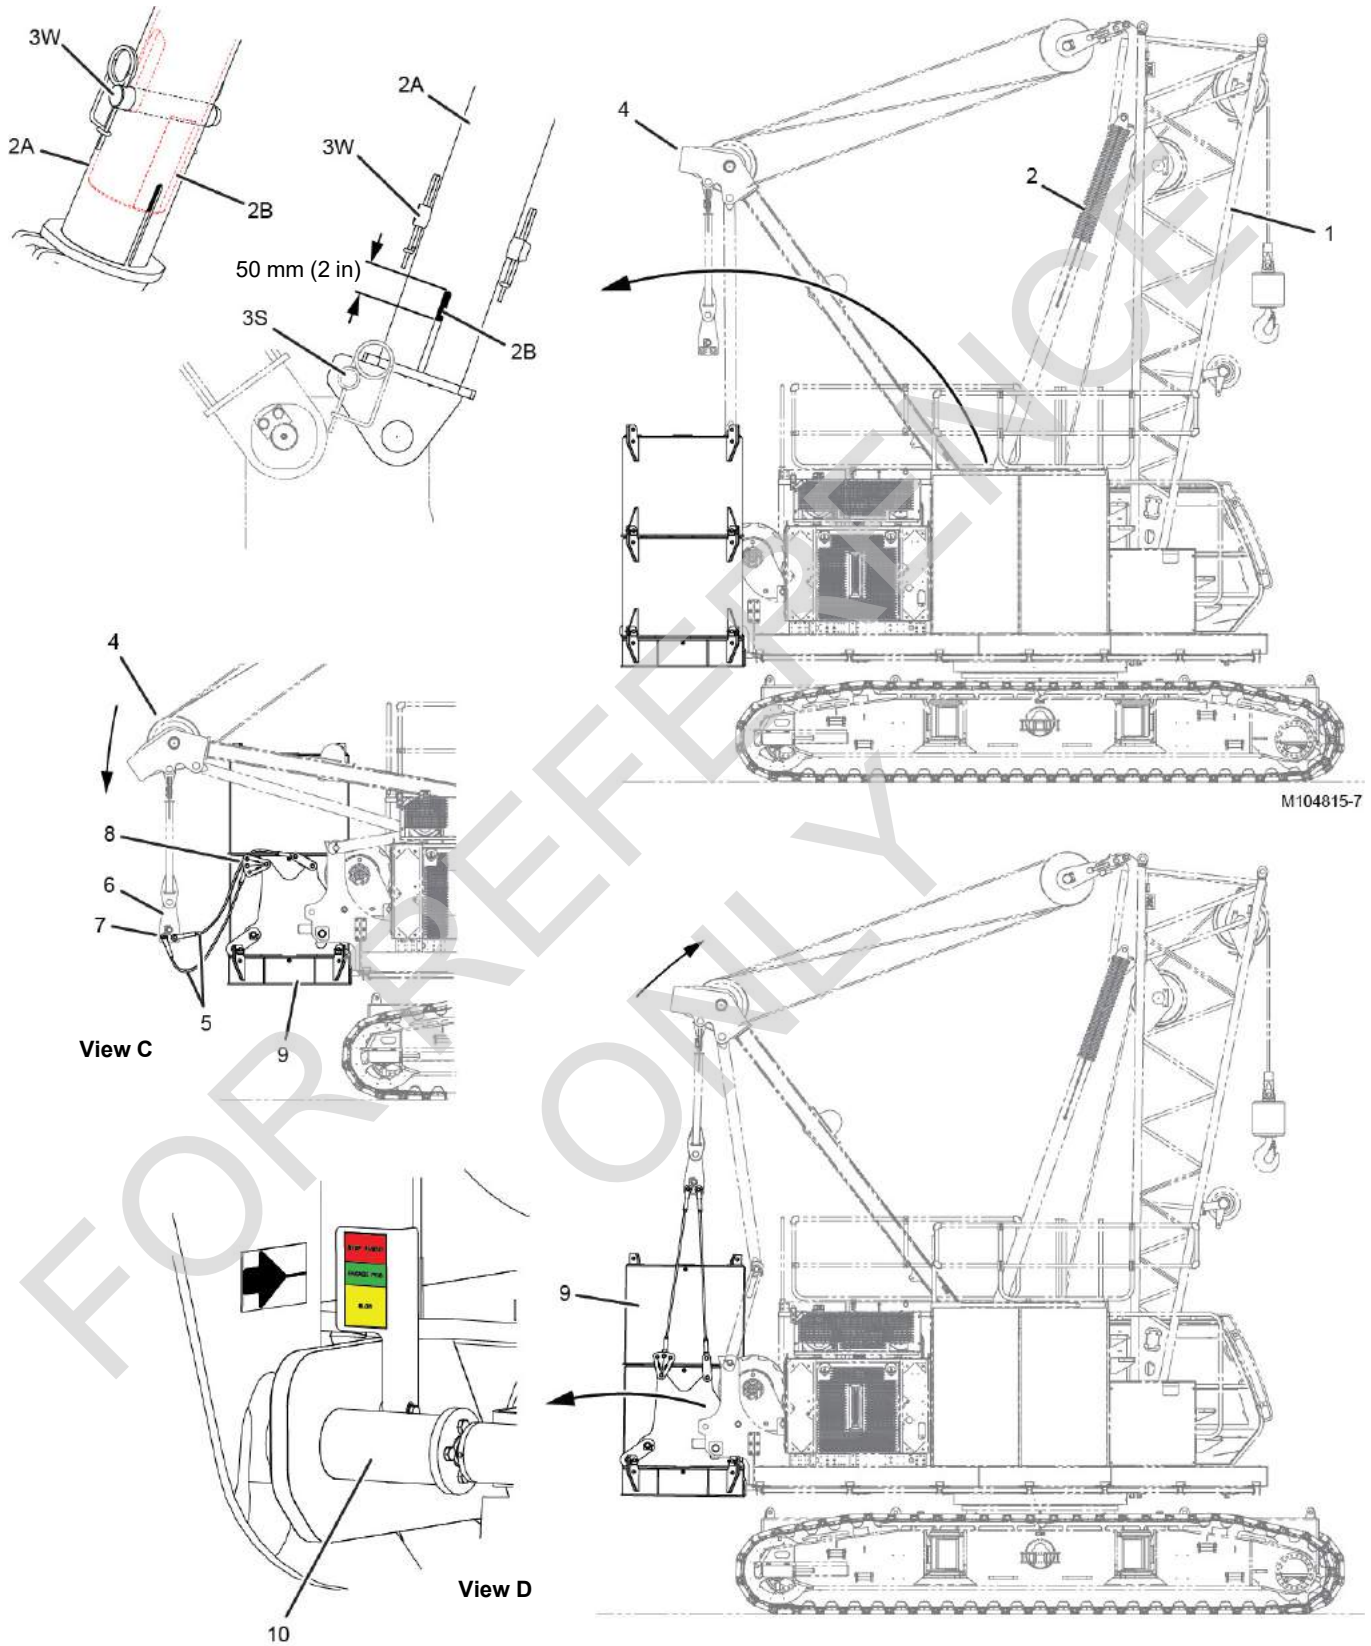

Figure 4-46
Legend for Figure 4-46.
See Figure 4-46.
Do not stick your fingers into the slots in the boom stop outer tubes (2A, View B, Figure 4-46).
8. Slowly continue to raise the gantry until the weight of the crane counterweight (9, View D, Figure 4-46 on page 4-72) is off the counterweight pins (10). The arrow (View D) should be pointing at the green area of the alignment decal.